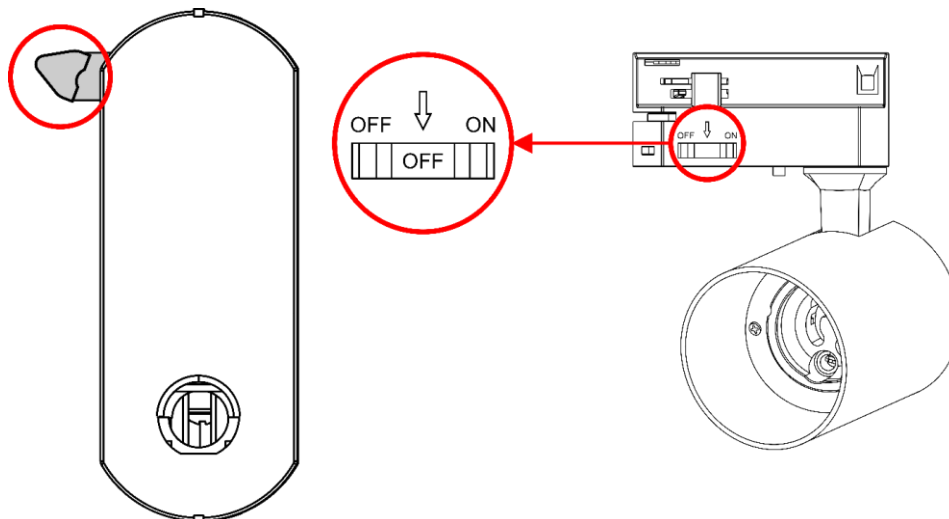

Fig. 06
- 02) Make sure that the **power switch (05)** is in OFF position and the **track lock (06)** is in unlocked position, as shown in Fig. 06.